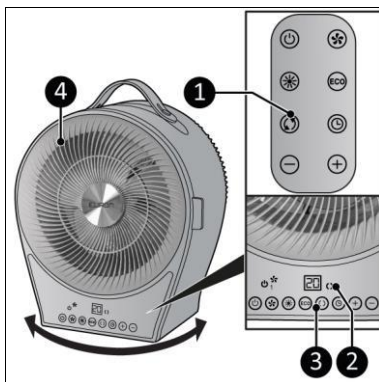

Figure 10
1. Press the motion button on the control panel (Figure 10, pos. 3) or remote control (Figure 10, pos. 1).
3. The device (Figure 10, pos. 4) starts rotating from left to right in an angle of 70°.